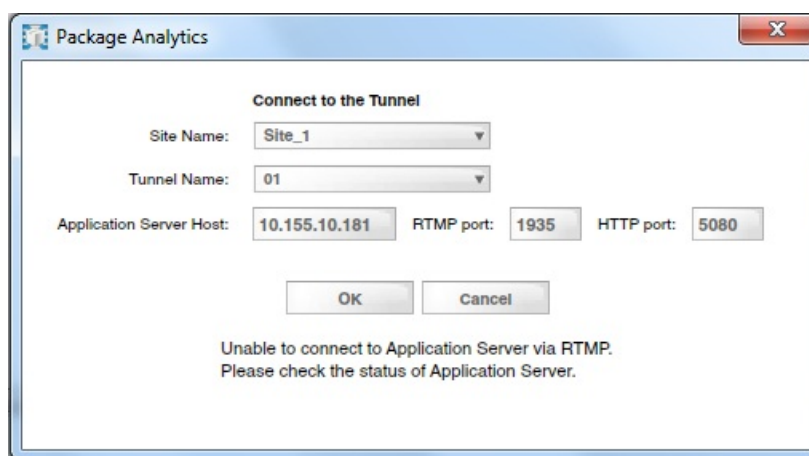

Figure 13-1: Package Analytics Dashboard Client
If the client cannot connect to the Application Server the message shown in Figure 13-1 may be displayed.
- If the dashboard client is trying to connect from a remote PC then make sure the application server is running at the IP address for **Application Server Host** (Refer to Figure 13-1). Confirm the IP address matches the location of the application server. Make sure the IP address is on the same network; try to ping IP address to confirm.
In the Package Analytics dashboard, under the **Activity** tab, check heartbeat messages for any camera errors. Check the image archive to see the image exists. Make sure the drive is not full. Verify that the Image Server is running. In **SVPSettings.jar** (Figure 13-1), select the **Server** tab, and confirm that the correct image server or solution server is being used. Reboot the PC to restart the Package Analytics application, or navigate to the SVP directory and run **StartPack.bat**. This will kill all instances of Package Analytics and restart the application.